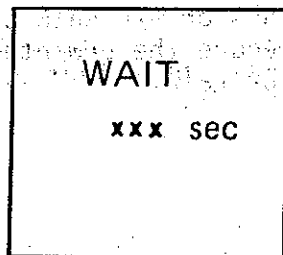

Fig. 4.1 Display during preheating period
- a) Turn the power switch to SB position, and preheating timer starts counting down from 180 seconds. The time remained to the completion of the preheating is displayed on the screen with "WAIT" sign. During this period, the screen remains in counting down mode, and the aerial is stationery(MD-3030 only) even if the function switch is set to ON mode. (Displays on the screen are shown in Figs. 4.1 & 4.2)